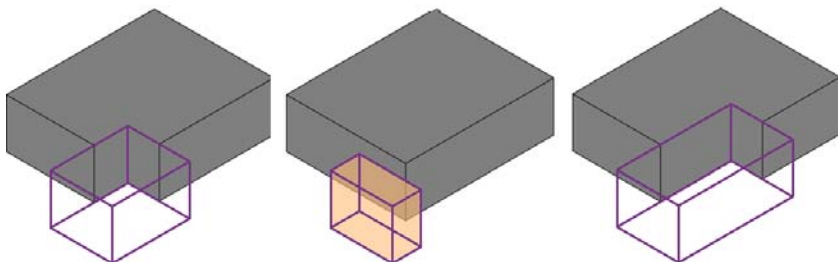

Figure 17.32
5. Select the void, and drag it back into place. Notice that the solid is cut once again, as shown in Figure 17.32.